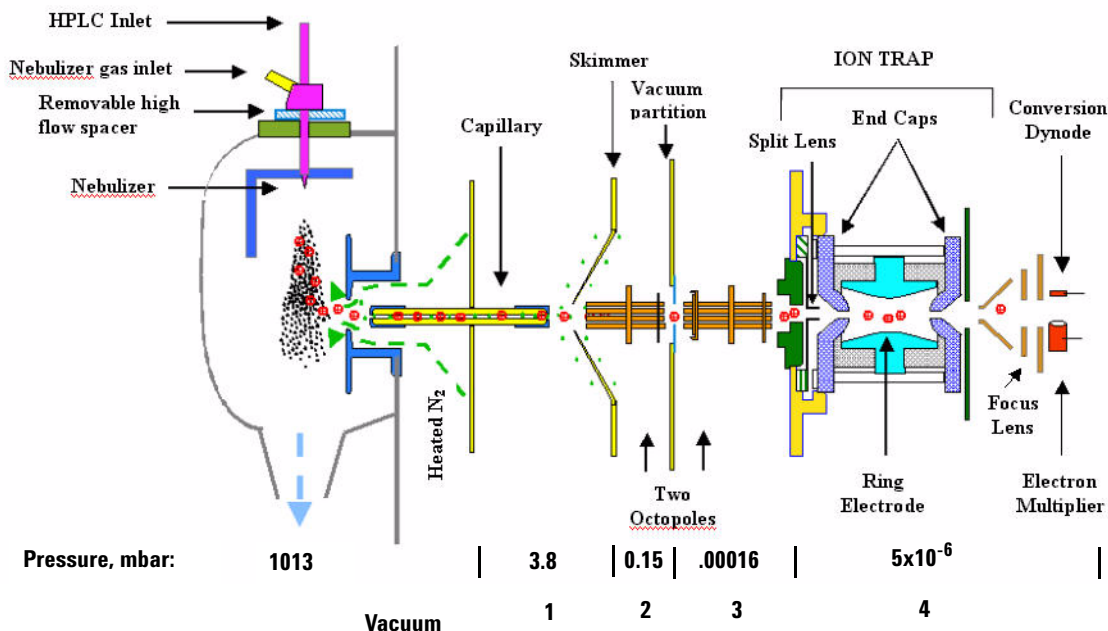

Figure 19 Vacuum system and pressures in API-electrospray LC/MS/MS system (6310 or 6320)
The function of the Ion Trap vacuum system (see Figure 19) is to evacuate regions of ion focusing and transport and keep the ion trap at low pressure. Most of the solvent is vented from the spray chamber and never reaches the inlet capillary, because of the orthogonal-flow sprayer design. Only ions, drying gas, and a small amount of solvent are transmitted through the capillary.
- Stage 4 of the vacuum system (Figure 19 on page 24)